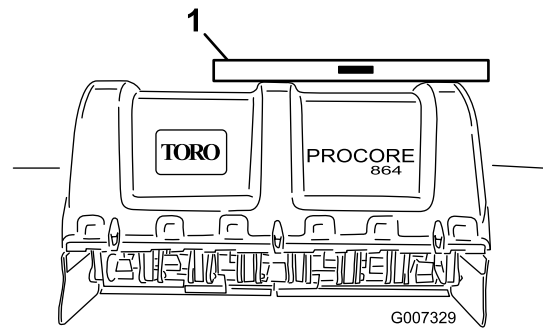

Figure 15
2. Place a level on top of the frame of the machine to check it for level side-to-side (Figure 15).